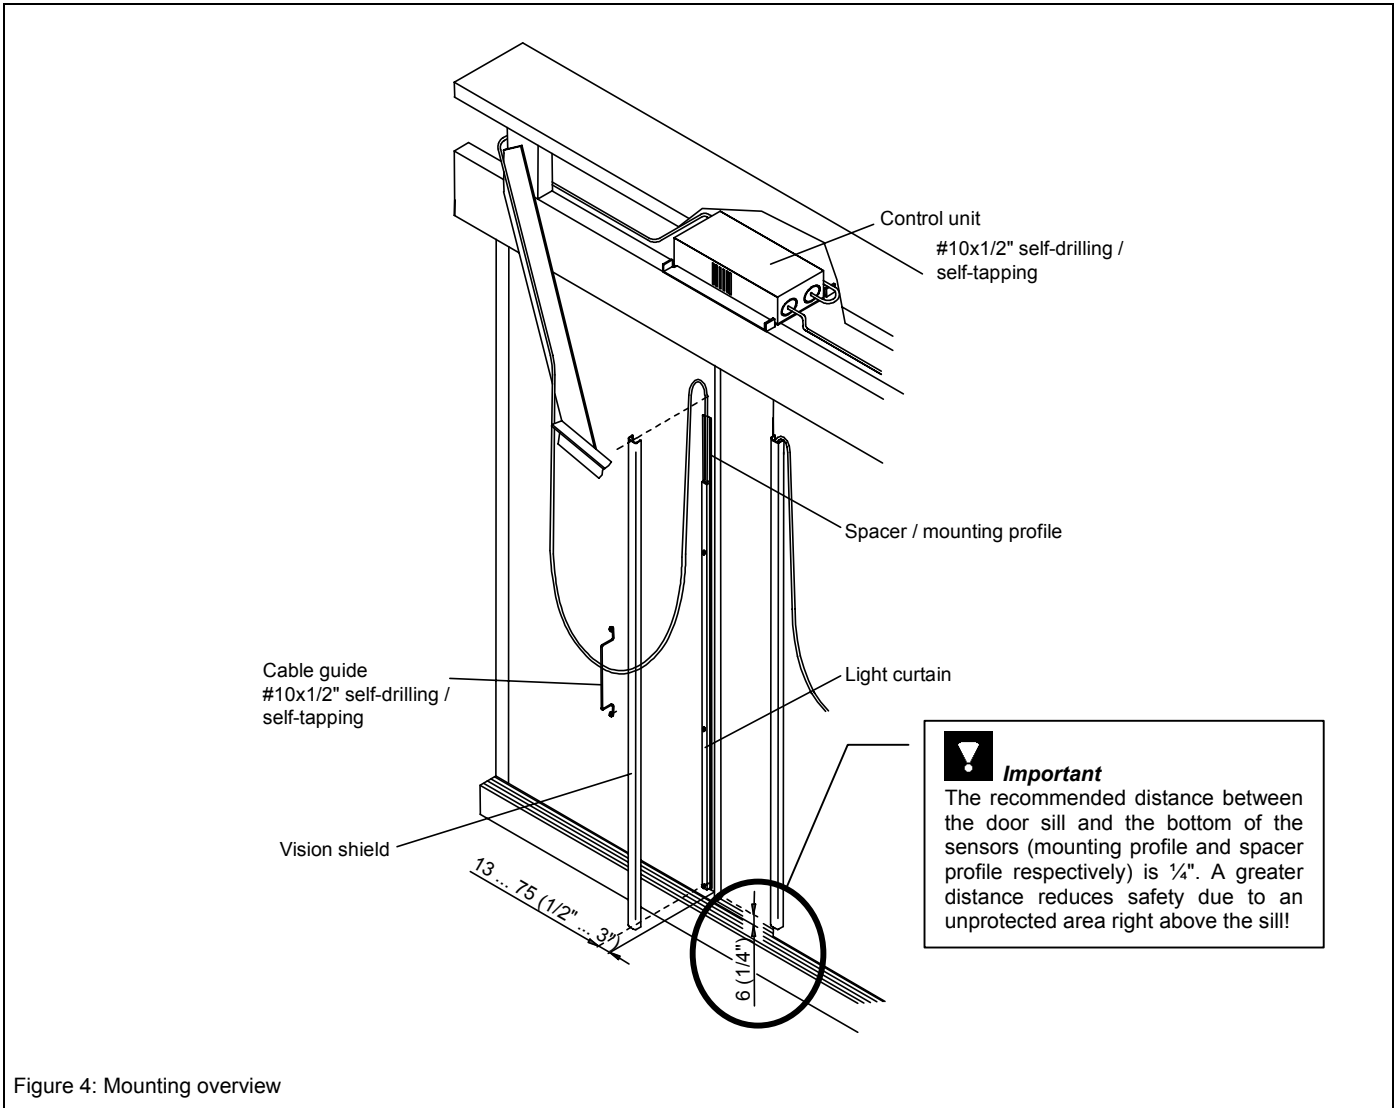
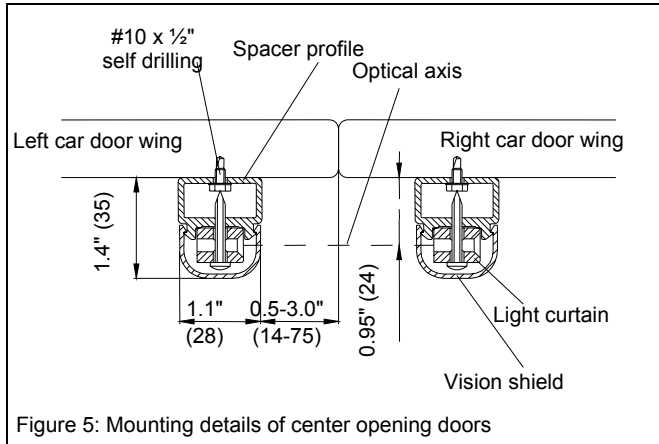

Figure 4: Mounting overview
Figure 5: Mounting details of center opening doors
1. Install the spacer profile to the door with 6 self tapping screws (note the 'bottom'-label on the mounting / spacer profile and refer to Fig. 4 for proper mounting position).
We recommend installation of the sensors as far away as possible from the leading edge of the door to prevent them from damage, e.g. vandalism (refer to Figure 4: Mounting Overview and Figure 5: Mounting details of center opening doors).
The control unit can be mounted horizontally or vertically using #10 x 1/2" self drilling / self tapping screws. An ideal mounting position is drawn in Figure 4.